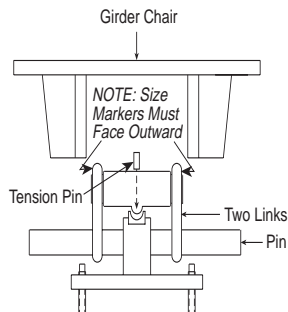

Figure 2-4. Links, Pin, Tension Pin, and Girder Chair Assembly
3. Attach the two links to each end of the load cell so the raised lettering (size) on each link is facing away from the load cell to avoid any interference. Slide the pin in through the hole of the stand. Position the links on each end of the pin. Place the girder chair on the ends of the pin (Fig. 2-4 on page 3).